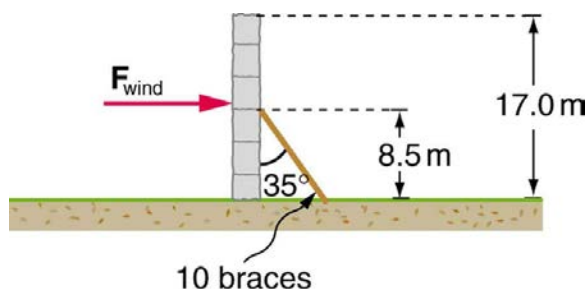

Figure 9.32
10. A 17.0-m-high and 11.0-m-long wall under construction and its bracing are shown in **Figure 9.32**. The wall is in stable equilibrium without the bracing but can pivot at its base. Calculate the force exerted by each of the 10 braces if a strong wind exerts a horizontal force of 650 N on each square meter of the wall. Assume that the net force from the wind acts at a height halfway up the wall and that all braces exert equal forces parallel to their lengths. Neglect the thickness of the wall.